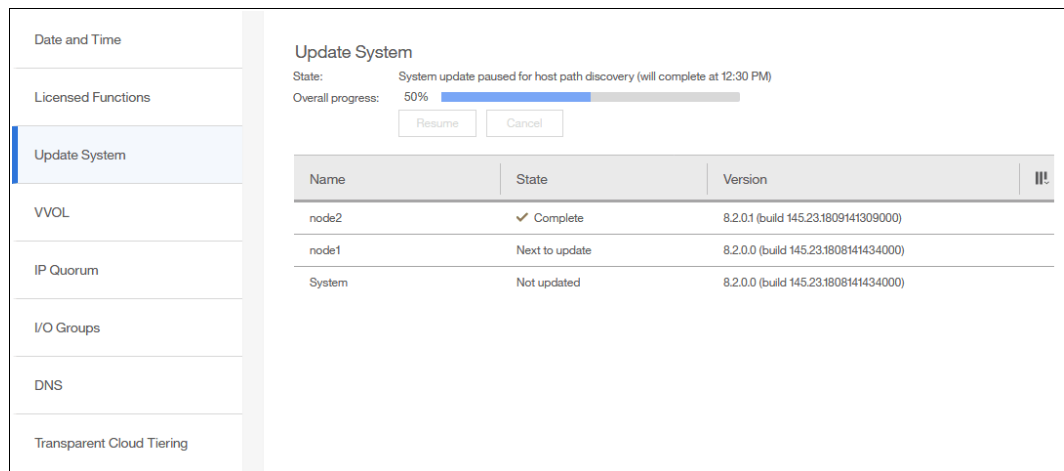

Figure 7-56 Update process paused for host path recovery
13. The system begins updating the IBM FlashSystem 9100 software by taking one node offline and installing the new code. This process takes approximately 20 minutes. After the node returns from the update, it is listed as complete as shown in Figure 7-56.